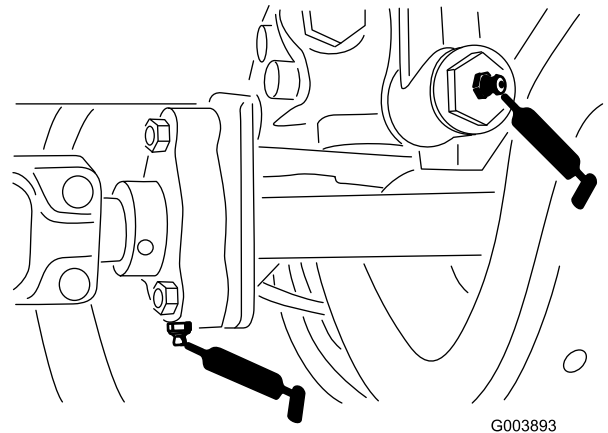

Figure 46
- 1 fitting on the traction control linkage at the transmission (Figure 46)
- 1 fitting on the drive shaft support bearing (Figure 46)
- 3 fittings on the rear axle drive shaft (Figure 46)